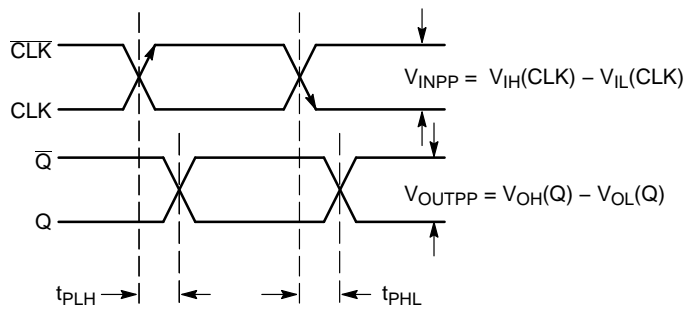

Figure 9. AC Reference Measurement
24. See Figure 9. $t_{SKEW} = |t_{PLH} - t_{PHL}|$ for a nominal 50% Differential Clock Input Waveform.